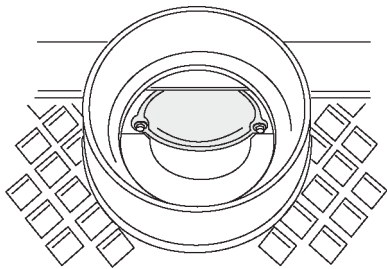

Figure 2. Remove the Rear Flue Outlet Coverplate.
3. Remove the two screws that attach the Coverplate to the rear outlet. Hold onto the Coverplate while removing the second screw so that it does not fall out. See **fig. 2**.